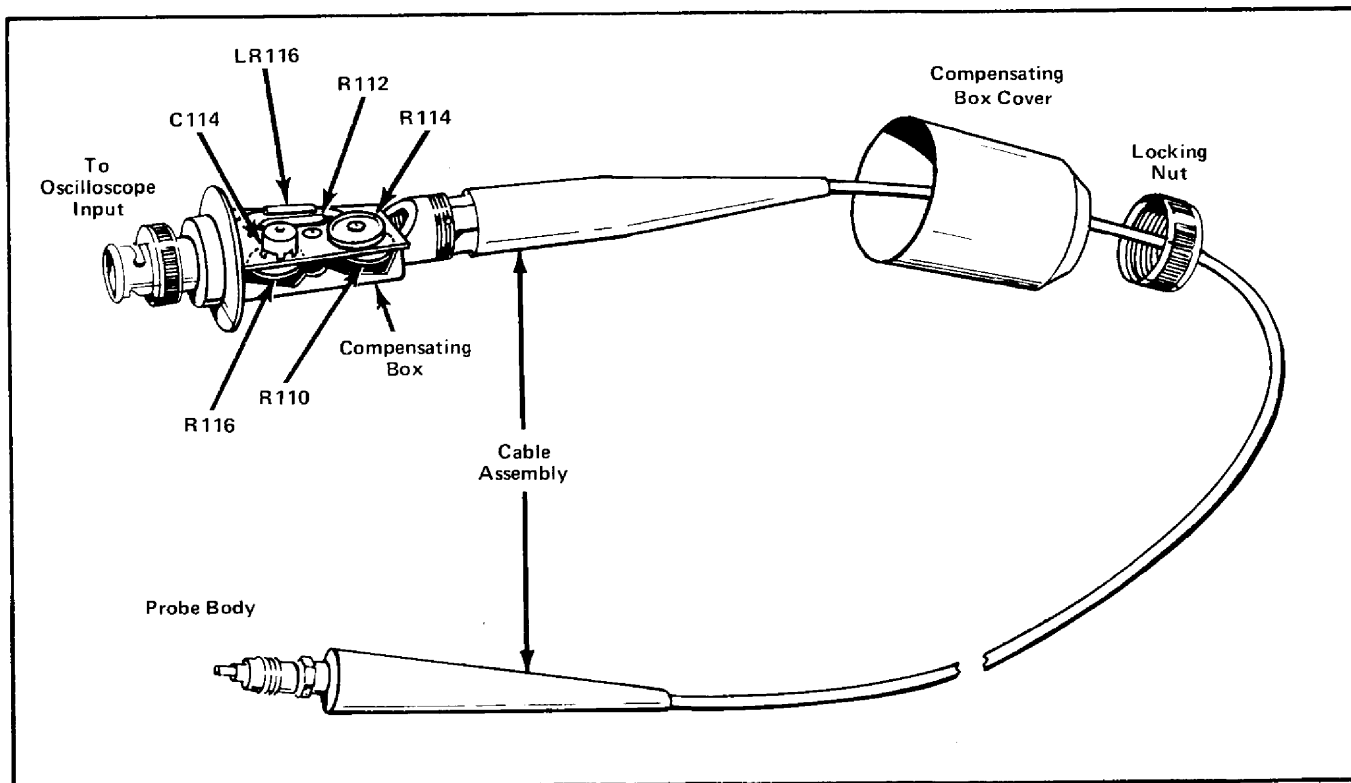

Fig. 6. P6009 Probe, H.F. compensating assembly.
g. Set C114 (see Fig. 6) for maximum rolloff on the leading corners of the squarewave.
j. Adjust R110, R114, and R116 for the best overall flat response. Check for proper level with Time/Div at 200 ns, readjusting as necessary. Fig. 6 shows the location of adjustments in the compensating box.
1. Remove the Compensating Box Cover by unscrewing the Locking Nut that holds it in place (see Fig. 6).